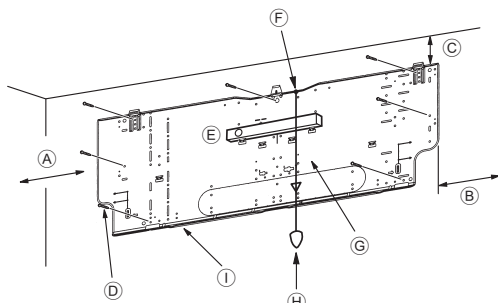
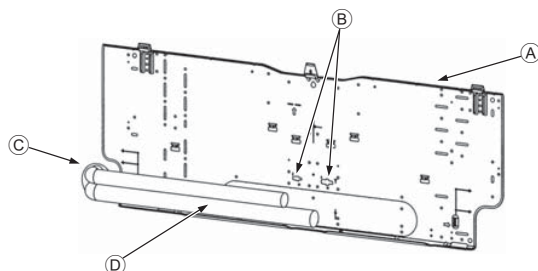

Fig. 3-4
Fig. 3-5
■ PKFY-P-VKM-E (Fig. 3-4)
- ① Min. 90 mm (617.6 mm or greater with optional drain pump installation)
- ② Min. 200 mm
- ③ Min. 70 mm (130 mm or greater with left, rear left, or lower left piping, and optional drain pump installation)
- ④ Fixing screws (4 × 25) ②
- ⑤ Level
- ⑥ Fasten a thread to the hole.
- ⑦ Place the level against the horizontal reference line of the mount board and mount so that it is level. Hang a weight from the thread and align with ▽ EPK of the mount board to permit leveling.
- ⑧ Weight
- ⑨ Mount board ①
3.3. When embedding pipes into the wall (Fig. 3-5)
- ① Mount board ①
- ② Reference marking for flare connection
- ③ Through hole
- ④ On-site piping